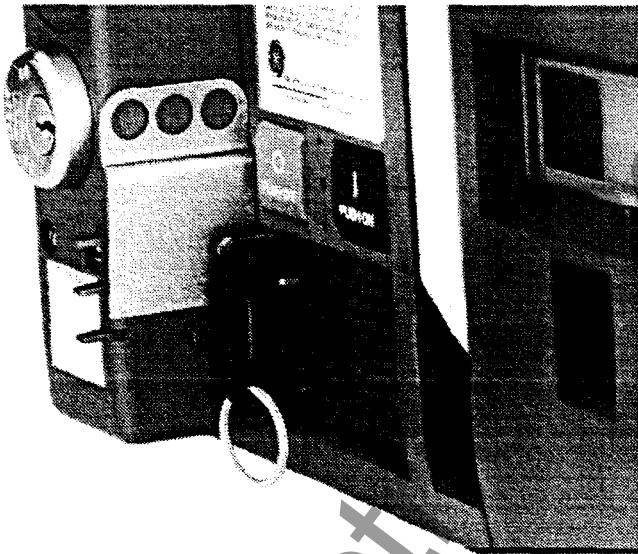

Figure 21. Side view of the breaker, showing the padlock tab extended with the Key Interlock installed.
2. Grasp the padlock tab and pull it out, as illustrated in Figure 21. Note that if the breaker contacts are closed, the padlock tab will not pull out.